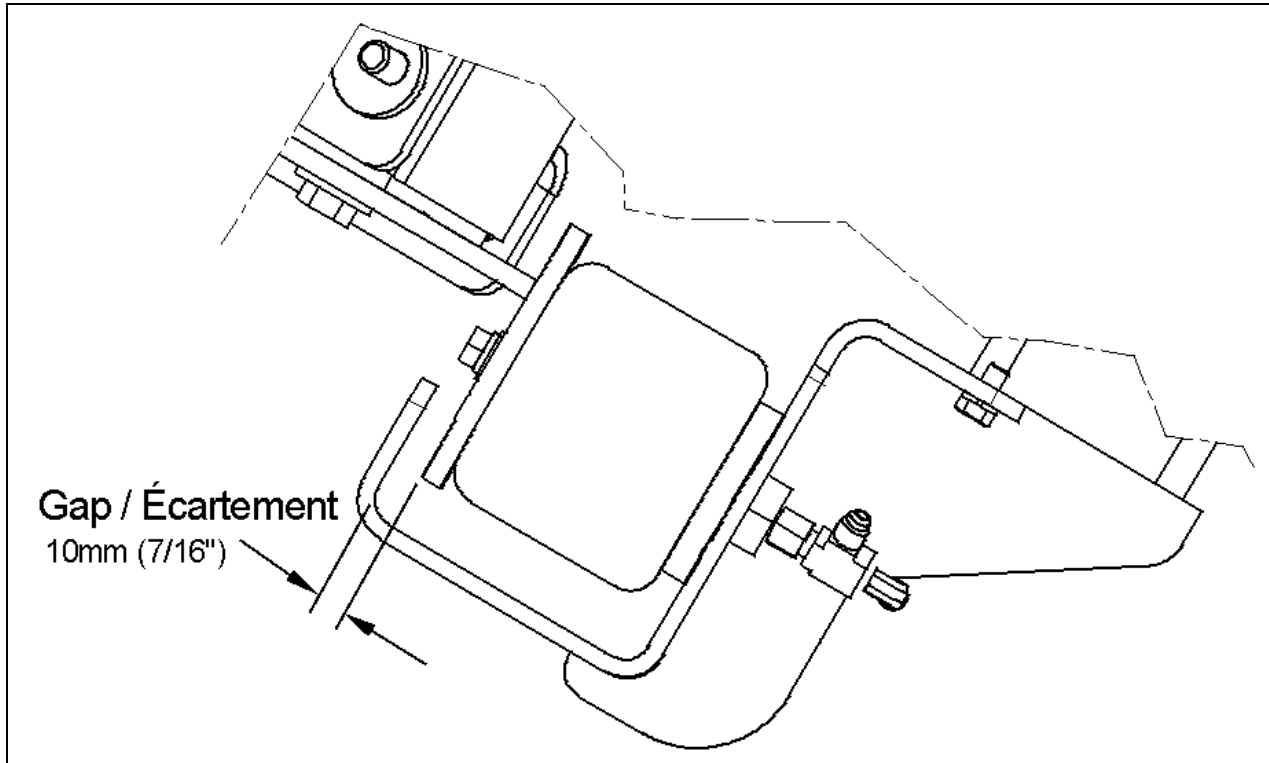

FIGURE 8
20. Install support plate and fan clutch assembly onto the mounting base and secure using 3 carriage bolts (5001208), flat washers (500874), split-lock washers (502889) and nuts (502543) (Refer to figure 8).
21. Route clutch power cable along the mounting base as per figures 8 and 11. Fix power cable connector onto support plate and mounting base using 2 nylon cable ties (504637). Drill 7-mm holes in order to install quick mounting wire clamps (509815) so as to secure cable.